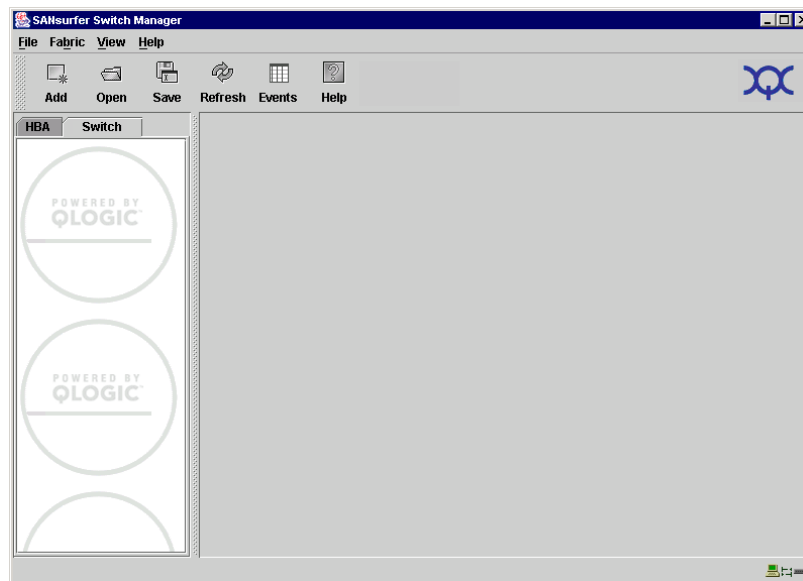

Figure 2-2. SANsurfer Switch Manager Window
- Click the **Start Application Without Specifying a Fabric** radio button to open the SANsurfer Switch Manager window shown in Figure 2-2.